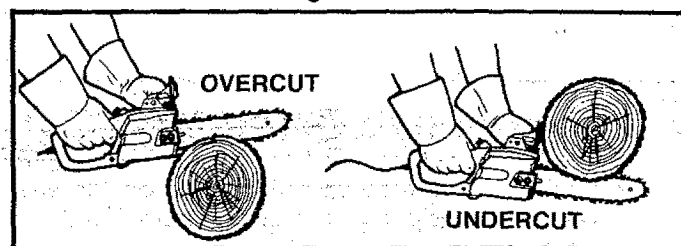

Figure 29
2. TYPES OF CUTTING USED (Figure 29)